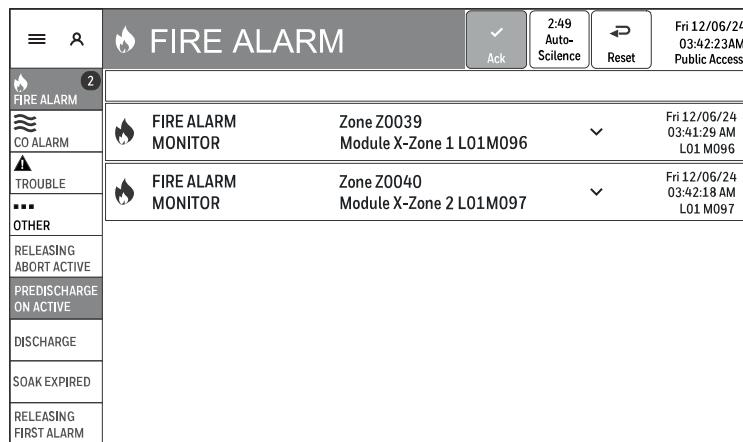

Figure 4-19: Pre-Discharge Screen
- The alert bar tile will turn red when any releasing zone on the local node is in the pre-discharge state. It will remain lit during abort active. See Figure 4-19: Pre-Discharge Screen